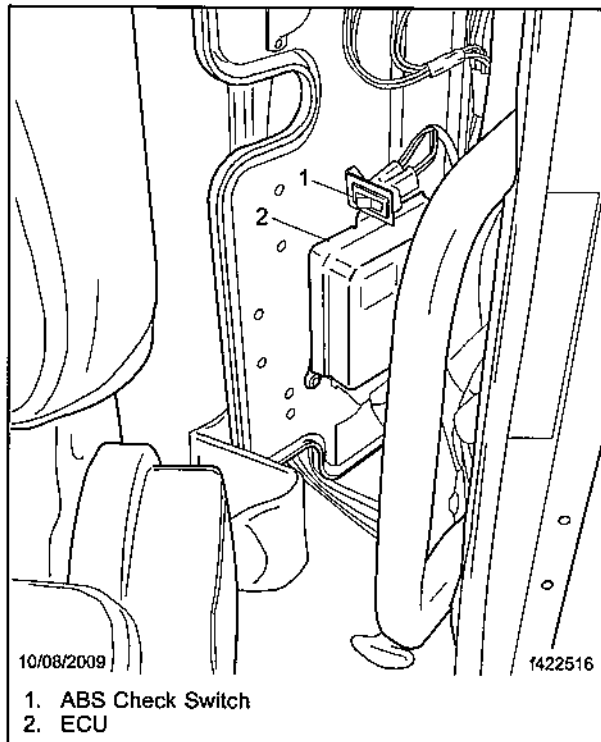

Fig. 9, ABS ECU
1. Loosen the retaining screws on the access cover. See Fig. 9 for location of the ABS ECU.